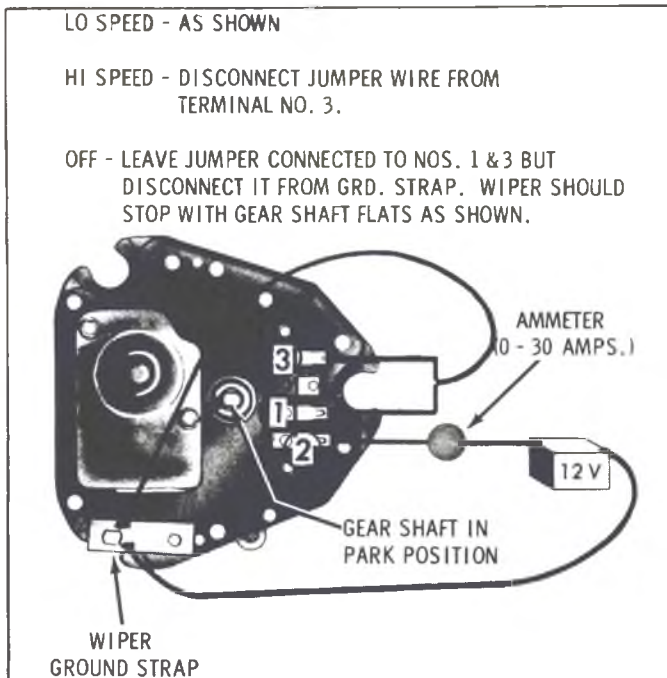

Fig. 50--Jumper Wire Connections
3. Disconnect wiring harness from wiper and try operating wiper as shown in Figure 50.